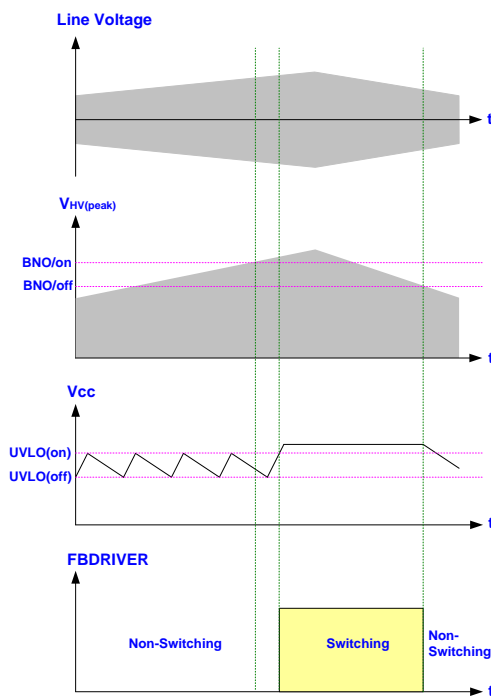

Fig 17.
The LD7791 features Brown-in / Brown-out protection on HV pin. As the built-in comparator detects line voltage, it will turn off the controller to prevent from any damage. In case $V_{HV} < \text{Brown-out Level}$, the output driver will be disabled even when VCC already reaches UVLO (ON). It therefore forces VCC hiccup between ULVO (on) and UVLO (OFF). Unless the line voltage is large enough and over Brown-in Level, the output driver will not start switching even if the next ULVO (on) is tripped. A hysteresis is designed to prevent from false-triggering and damage to the external components during turn-on and turn-off phase. See Fig 17 for the operation.